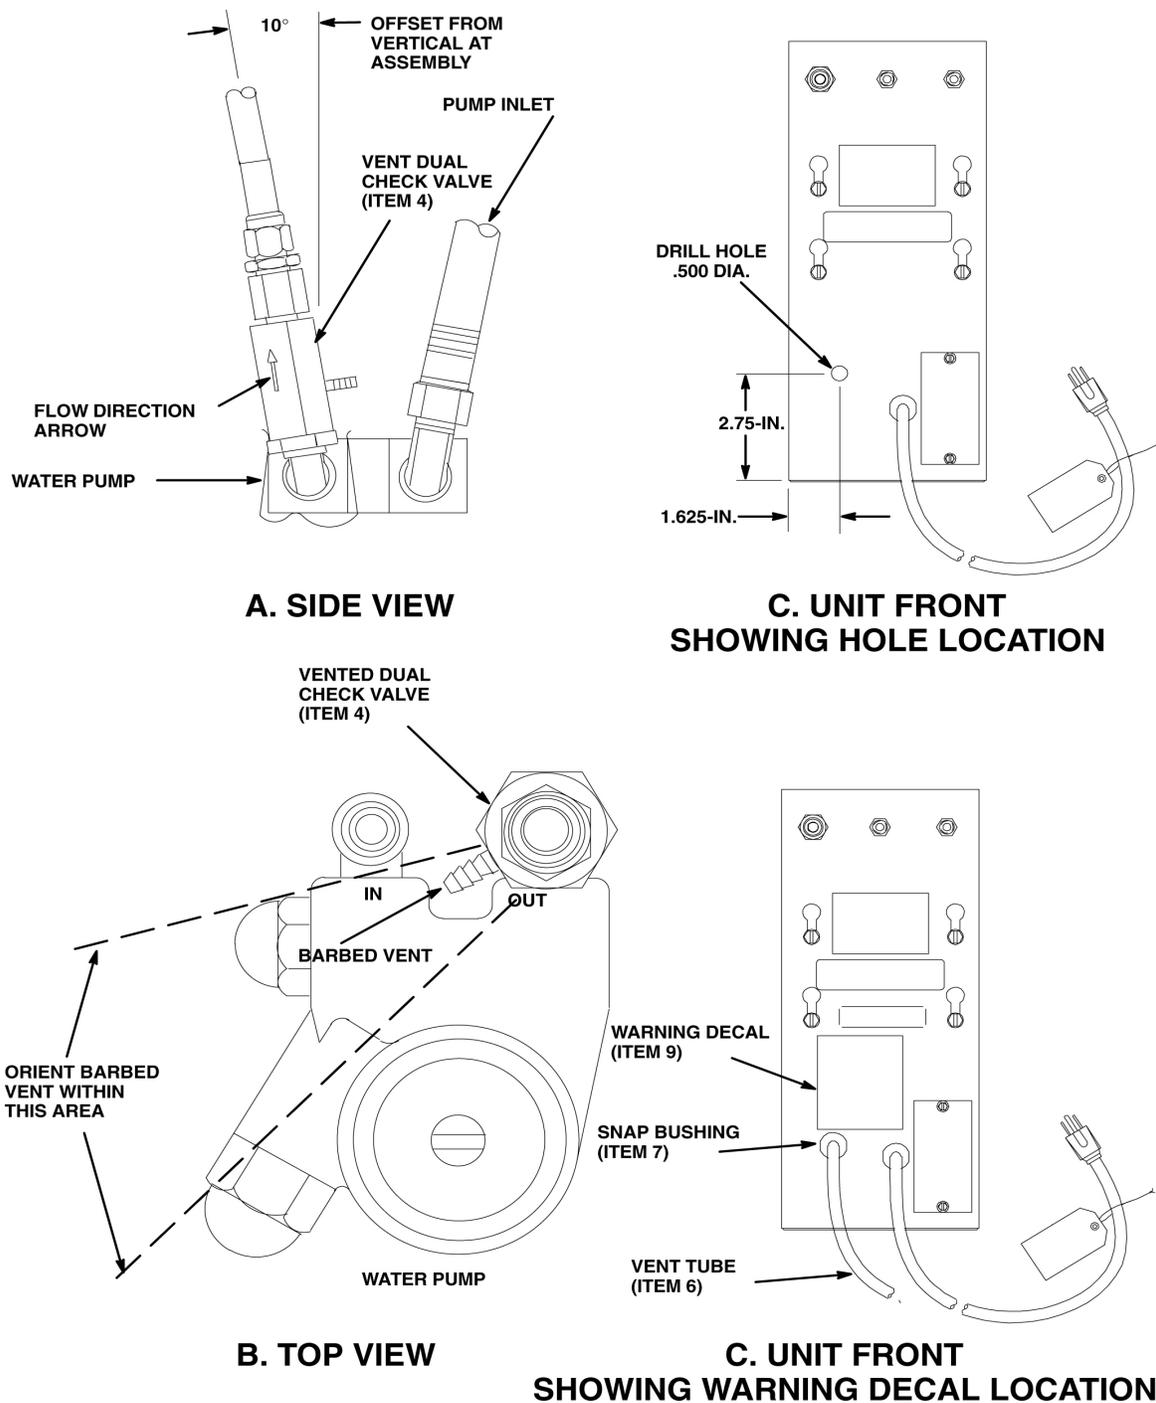

Figure 2. Installation Detail Views VA13 Carbonators (P/N 416411000) and (P/N 496411000)
16. Apply food-grade thread sealant to male end of brass elbow (item 5) and install it in the water pump outlet. Tighten and orient it to approximately 10 degrees from vertical as shown in view A of Figure 2.
17. Apply food-grade thread sealant to pipe thread fitting on inlet end of vented dual check valve (item 4) and install it into the brass elbow (item 5). Tighten to orient the barbed vent fitting on the side of the valve to the position shown in view B of Figure 2.
18. Using plastic gasket (item 3) connect swivel fitting of tube (item 2) to the outlet of the vented dual check valve (item 4). Tighten assembly.
19. On the carbonator cabinet, mark a hole center location as shown in view C of Figure 2. and drill (or punch) a 1/2-inch diameter hole on center.
20. Install snap bushing (item 7) in 1/2 inch hole.
21. Route one end of ten foot vent tube (item 6) through the snap bushing (item 7).
22. Place clamp (item 8) over one end of ten-foot vent tube (item 6) and press the end of the tube over the barbed vent fitting on the side of the vented dual check valve (item 4). Center the clamp on the barbs and tighten it using pliers.
29. Place clamp (item 1) over the unconnected end of tube (item 2). Press the tube end over the barbed fitting on the carbonator tank plain water inlet.
32. Affix warning decal (item 9) on the side of the Unit in the position shown in view D of Figure 2.